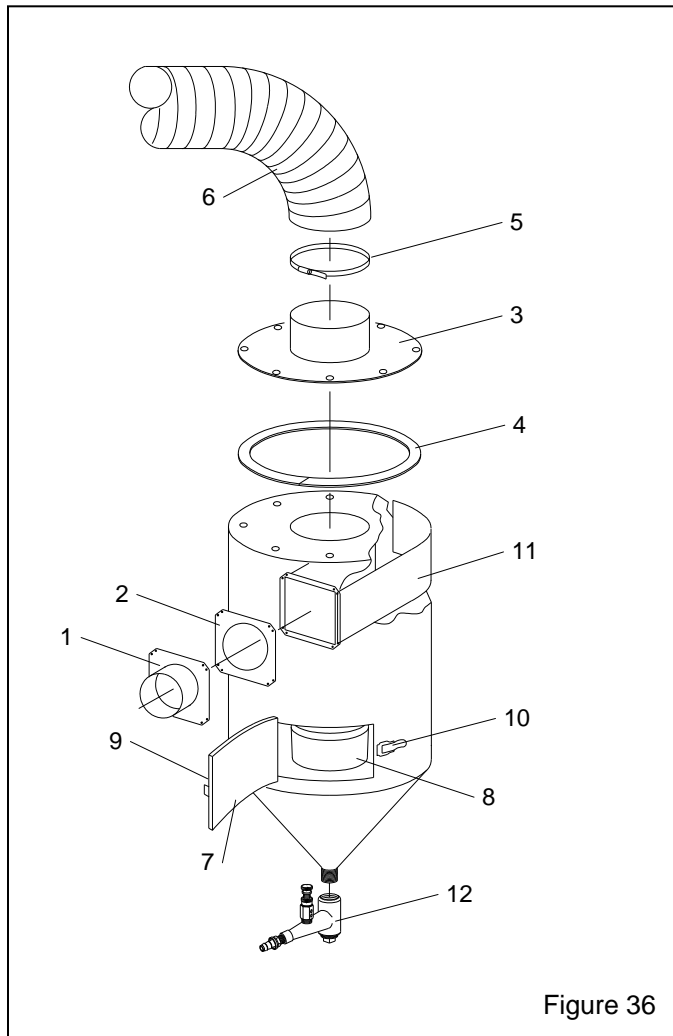

Figure 36
**9.9 Reclaimer Assembly for Pulsar III, Figure 36**